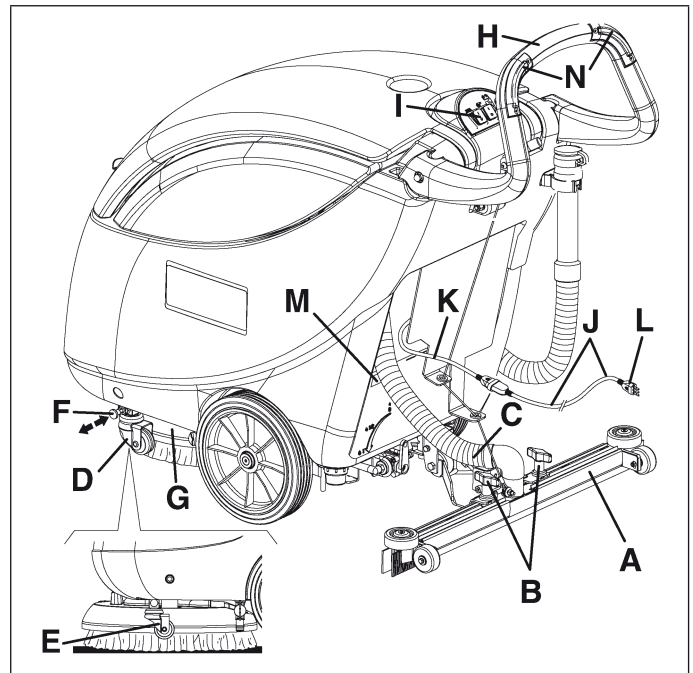

Figure 5
1. Install the squeegee (A, Fig. 5) and fix it by means of the squeegee knobs (B), then connect the vacuum hose (C) to the squeegee.
3. Deactivate the transport/parking device (D, Fig. 5) by putting it in position (E) after inserting the relevant pin (F).
4. Lift the brush cover (G, Fig. 5) by prying the handlebar (H).
6. Lower the cover (G, Fig. 5) by means of the handlebar (H).
7. Connect the extension (J, Fig. 5) with the power supply cable (K). Connect the extension plug (L) to the electrical mains.
*Before connecting the machine to the electrical mains, make sure that the frequency and voltage shown in the serial number plate/technical data (M, Fig. 5) match the mains voltage.*
8. Turn the brush/pad rotation switch (I, Fig. 5) to the "1" position; then hook the brush/pad-holder by pressing for a few seconds one or both switches (N, Fig. 5).